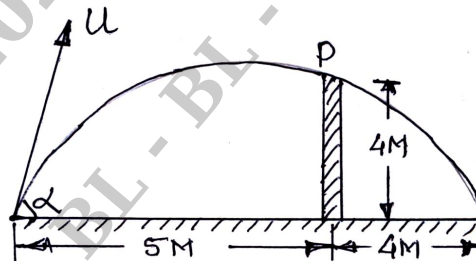

Fig.Q.10(c)
- c. Find the least initial velocity with which a projectile is to be projected so that it clears a wall of 4 m height located at a distance of 5 m and strikes the ground at a distance 4 m beyond the wall as shown in Fig.Q.10(c). The point of projection is at the same level as the foot of the wall.